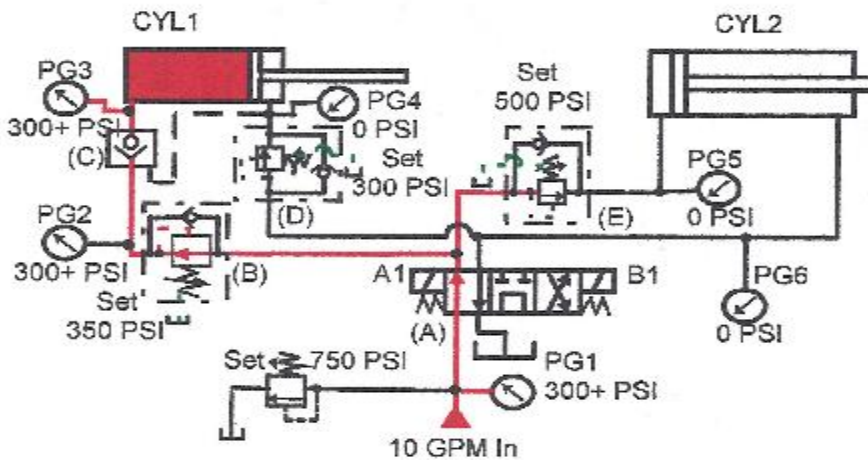

Figure 20-6. Two-cylinder sequence circuit.
When CYL1 makes part contact, Figure 20-6, system pressure increases rapidly. As pressure passes through 300 psi (as seen on gauges PG1, 2, and 3), CYL2 is still stationary. Pressure continues to climb at CYL1 until it reaches 350 psi. When pressure is 350 psi at CYL1, reducing valve (B) shuts and holds. Pressure in the rest of the circuit continues to climb until it reaches 500 psi.